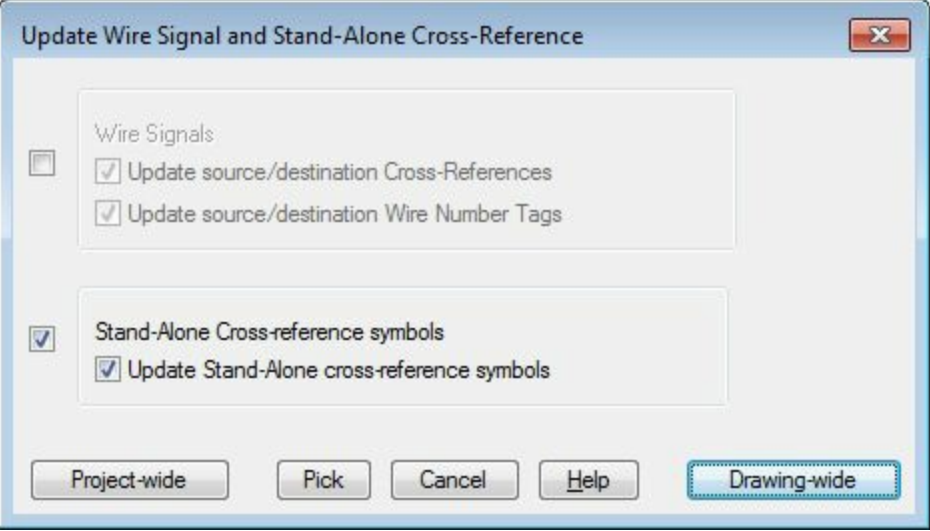

Figure-47. Update Wire Signal and Stand-Alone Cross-Reference dialog box
- Click on **Update Stand-Alone Cross-Referencing** tool from the Cross References drop-down. The **Update Wire Signal and Stand-Alone Cross-Reference** dialog box will be displayed; refer to Figure-47.